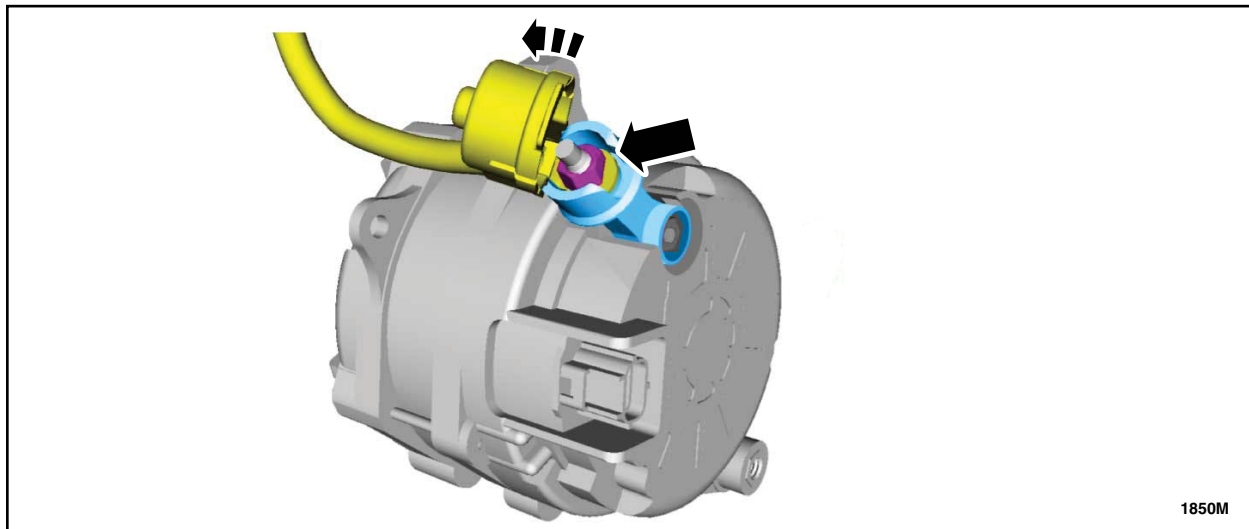

FIGURE 13
5. Inspect the generator battery positive cable nut and stud for cross threading and torque the nut. See Figure 13.